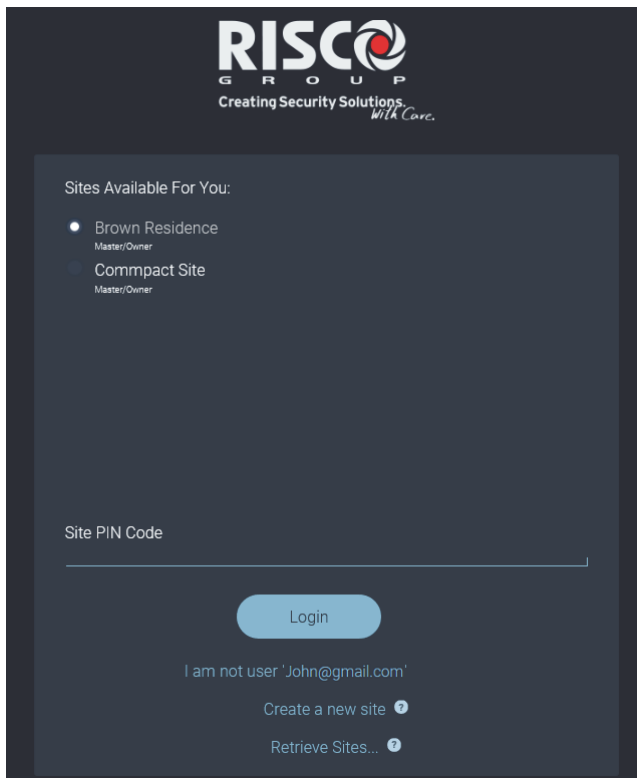

Figure 4: Site Selection
3. Select one of the displayed sites. Figure 4 shows an example of a user registered to two sites.